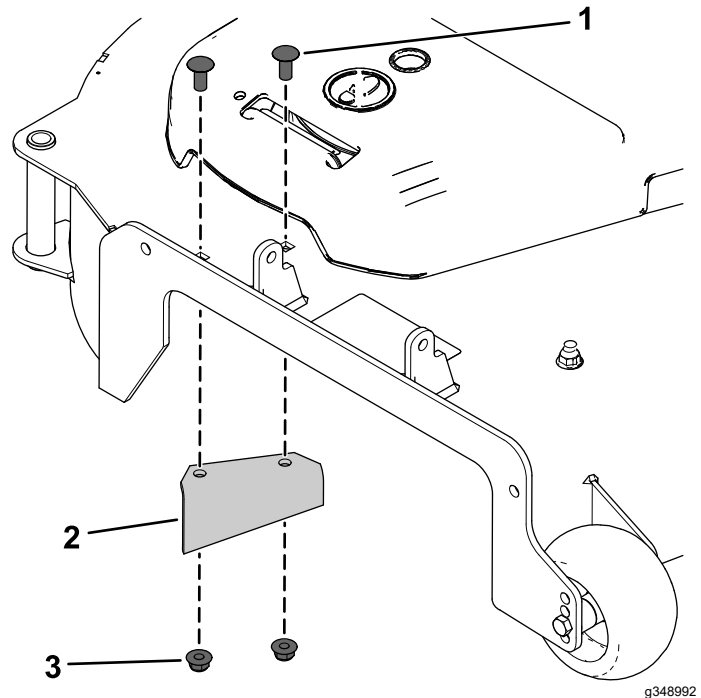

Figure 2
1. Remove the existing discharge baffle, 2 carriage bolts, and 2 locknuts (Figure 2).